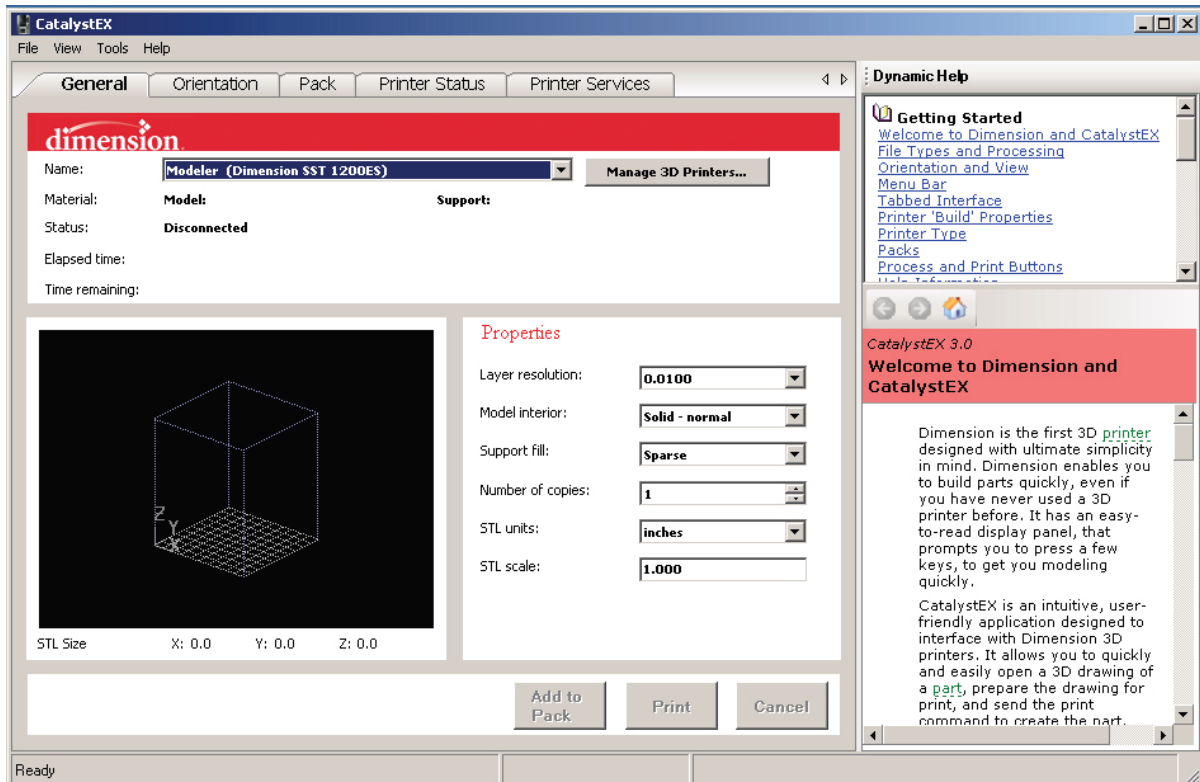

Figure 3: CatalystEX main window
2. Click on the CatalystEX icon on the desktop of your PC. The CatalystEX main window opens (see Figure 3).